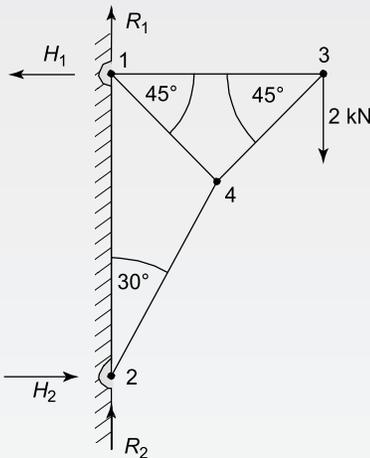

Figure RT3.2
2. Determine the unknown internal forces in the pin-jointed truss of Figure RT3.2.